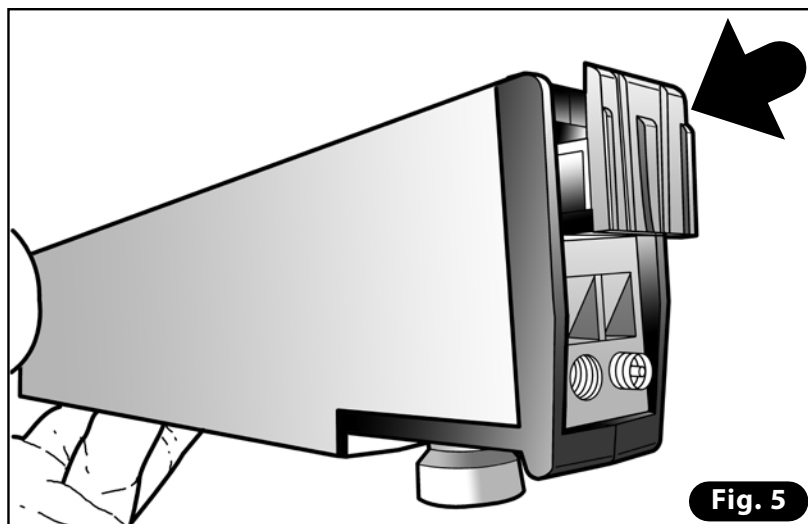

Fig. 5
- 5) Remove the old element making sure to keep the two brass pressers and their springs in place (**Fig. 5**).